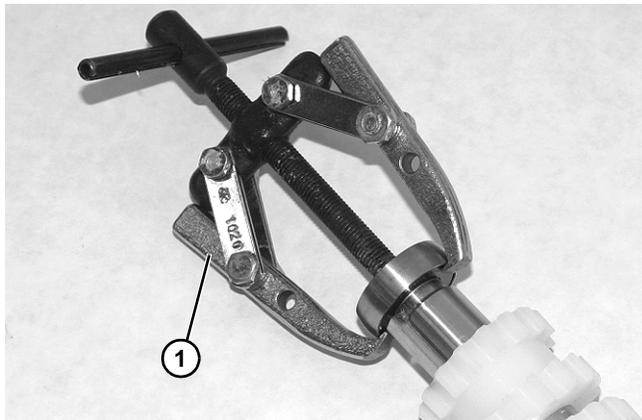

Figure 69
2. Use bearing removal tool (807-1078) (**Figure 69, item 1**) to remove bearings from drive pulley.